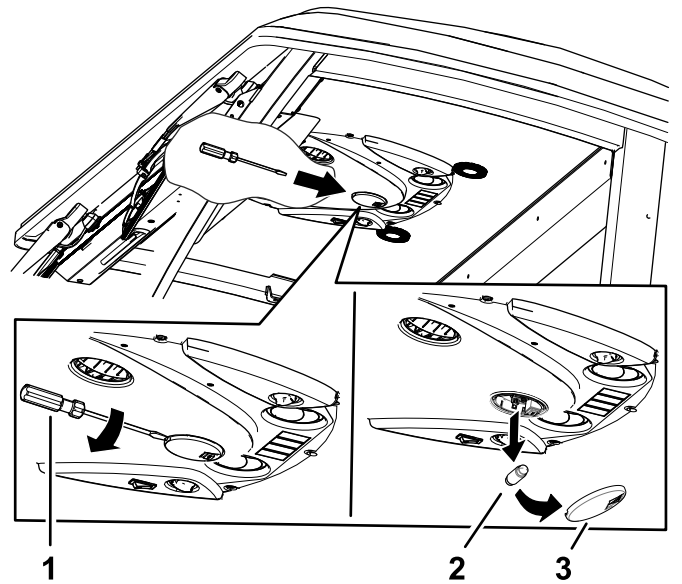

Figure 86
2. Remove the bulb from the light base (Figure 86).
1. Use a screwdriver to remove the light lens from the control panel. (Figure 86).